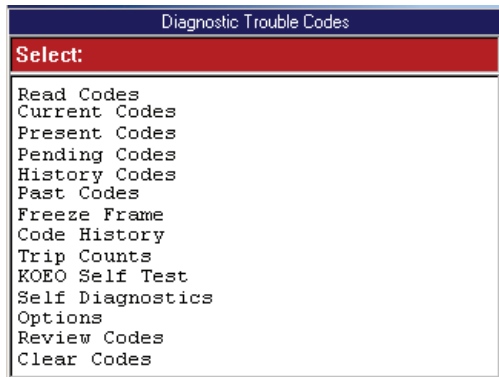

Figure 6.3: Diagnostic Trouble Codes Menu Screen Example
- 1 With the Diagnostic Menu screen displayed, select **Diagnostic Codes** and press the **ENTER** key. This displays the Diagnostic Trouble Codes menu screen (Figure 6.3 on page 28).